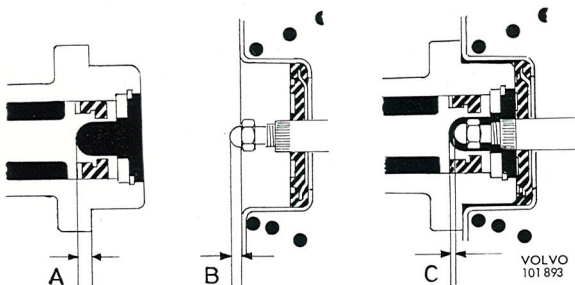

Fig. 5-51. Adjusting the thrust rod
1. For the correct function of the master cylinder, the outgoing thrust rod of the servo cylinder must not prevent the primary piston from returning to its resting position. Thus, when fitted and in the resting position, the thrust rod and primary piston should have a clearance (dimension C, Fig. 5-51) between them.
Before fitting the master cylinder, check the clearance first by, for example, measuring with slide calipers the distance between the face of the attaching flange and the centre of the primary piston, dimension A, Fig. 5-51. Then measure how much the thrust rod (the adjuster screw) projects outside the fixed surface of the servo cylinder, dimension B. For this measurement, the thrust rod should be pressed in fully and a partial vacuum should exist in the cylinder so that the engine, if necessary, can be started.